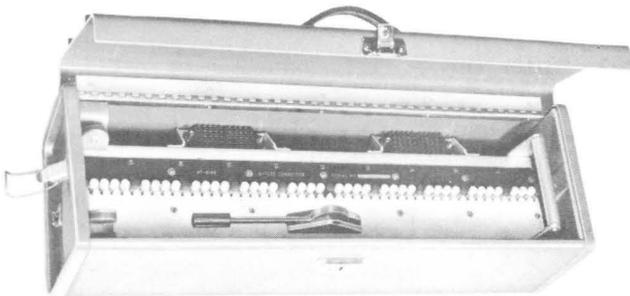

Fig. 10—B Connector Case Containing B Test Connector
10.02 The B Connector Case consists of a lightweight plastic box with a hinged cover, a carrying handle, a latch, and two snap catches. Supports are provided in the case for holding the B Test Connector in place as shown in Fig. 10.